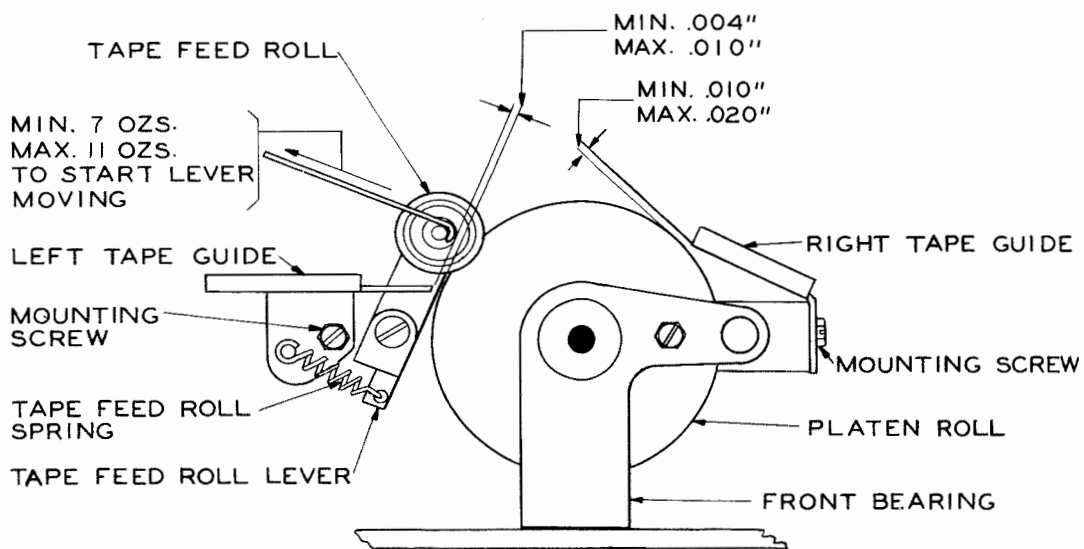

Figure 18
clears the platen by minimum 0.010 inch, maximum 0.020 inch. Gauge by eye. This adjustment applies to both types of tape feed. (See Figure 18.)
2.40 Tape-feed-roll Spring tension shall be minimum 7 ounces, maximum 11 ounces on pull-tape-feed typing units, and minimum 10 ounces, maximum 14 ounces on push-tape-feed typing units, measured at the feed-roll shaft as the feed roll leaves the platen. (See Figure 18.)